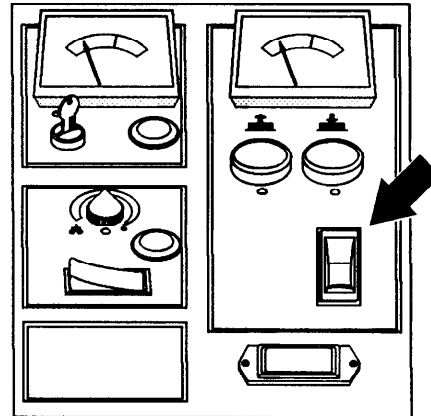

FIG. 4.
2. Activate Scrub/Transport Switch to either transport (brush-up) or scrub (brush down) position. Figure 4